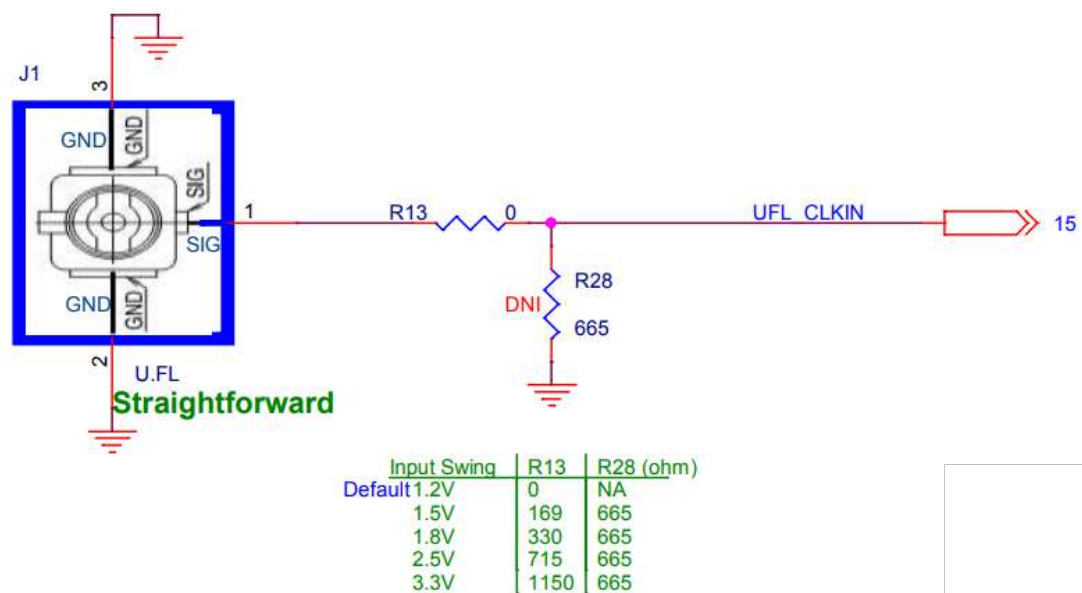

Figure 2-15 U.FL clock input signal level setting
*(1): The I/O standard of the **UFL_CLKIN** clock input from J1 to the FPGA needs to be **1.2V**. If the input clock I/O standard from the J1 exceeds 1.2V, it should be divided to 1.2V by using two series resistors (R28 and R13). **Figure 2-15** shows that in the case of different input clock voltage level, the corresponding resistance value settings for